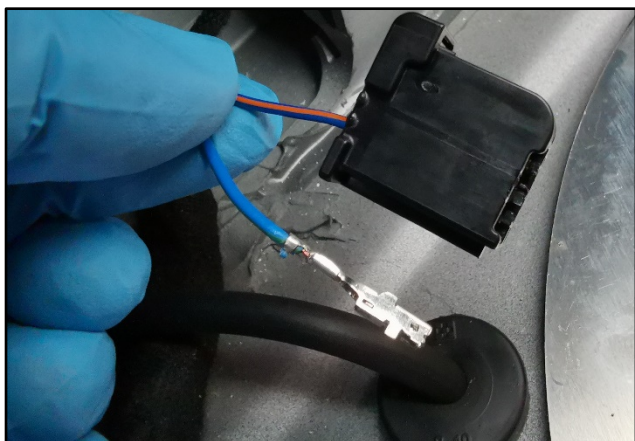

Figure 4
6. Remove the terminal from pin 1 (refer to Figure 4).